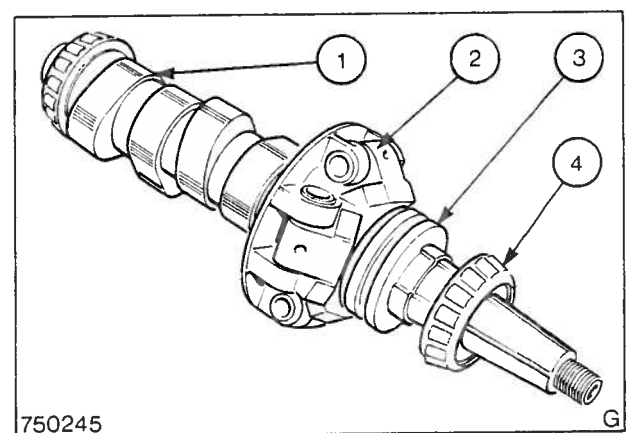

Fig. 15 The camshaft and governor mass assembly
15. Lift out the camshaft and governor mass as an assembly (Fig. 15).